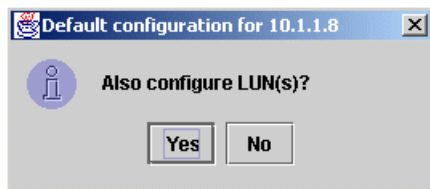

Figure 5-10 FAST MSJ automatic LUN configuration
- The configuration of the host adapters is corrected automatically, so that the first adapter is set to *visible* and the second to *hidden* for the operating system for all attached subsystems. It is also possible to configure the LUNs automatically (Figure 5-10). This leads to a configuration where all LUNs are enabled and the first adapter is used as the preferred path.
If you chose to automatically configure your LUNs (Figure 5-10 on page 132), all LUNs use the first adapter as the preferred path; the other adapter is failover only.